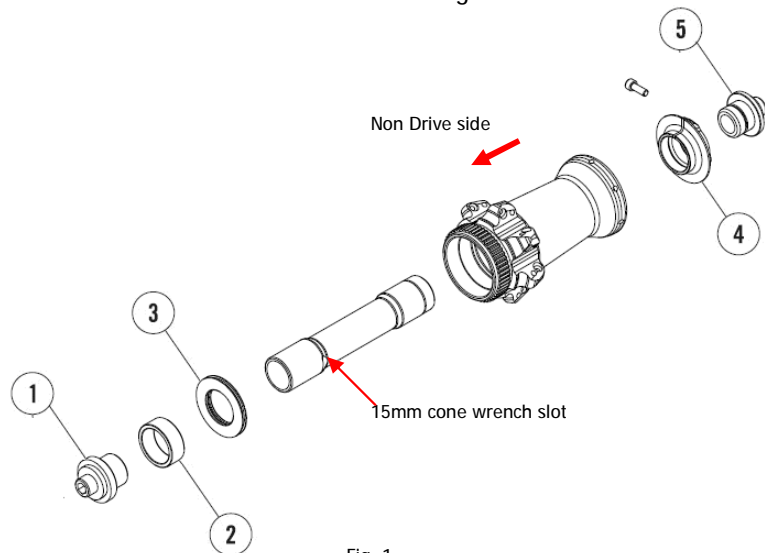

Fig. 1
1. Loosen the M3 PRA adjust collar set screw in the PRA adjustment collar ④ using a 2.5mm Allen Key.
2. Push to remove QR End cap (NDS) ⑤
3. Unscrew the PRA collar ④ to push QR end cap (NDS) ①
4. Pull Axle (include ①②③) out of hub shell, and taking note of which direction they face. (Fig.1)
5. Remove ②③
6. Use a 5mm Allen Key in QR end cap (DS) ① and 15mm cone wrench on the axle to remove QR end cap.